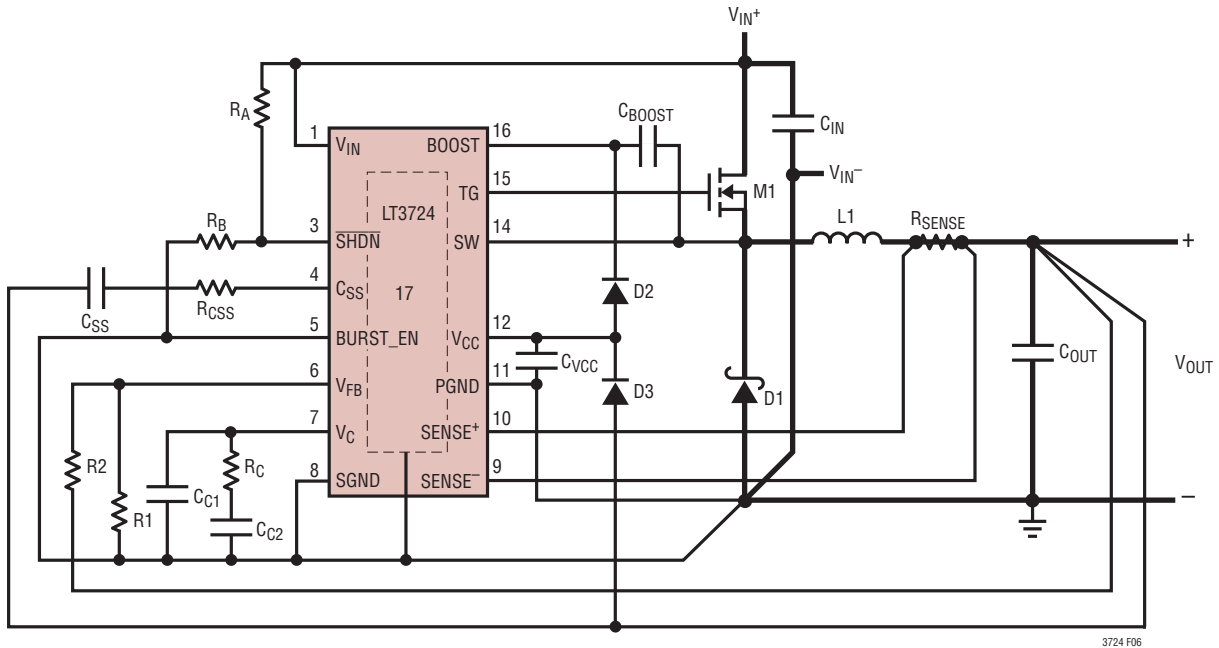

Figure 9. LT3724 Layout Diagram (See PCB Layout Checklist).
When laying out the printed circuit board, the following checklist should be used to ensure proper operation. These items are illustrated graphically in the layout diagram of Figure 9.
5. Locate the  $V_{\text{CC}}$  and BOOST capacitors in close proximity to the IC. These capacitors carry the MOSFET driver's high peak currents. Place the small signal components away from high frequency switching nodes (BOOST, SW, and TG). In the layout shown in Figure 9, place all the small signal components on one side of the IC and all the power components on the other. This helps to keep the signal and power grounds separate.